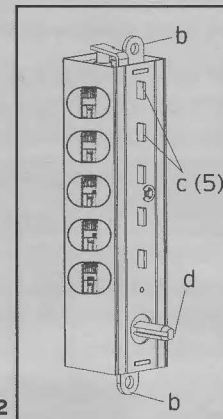

Fig. 2
1. Hold the chamber in one hand by the screw tab (b) on each end with the key-stems (c) facing you and the control shaft (d) at the bottom (See Figure 2).
2. Using pliers or equivalent, rotate the control shaft (d) counterclockwise and release to clear the chamber (See Figure 2).